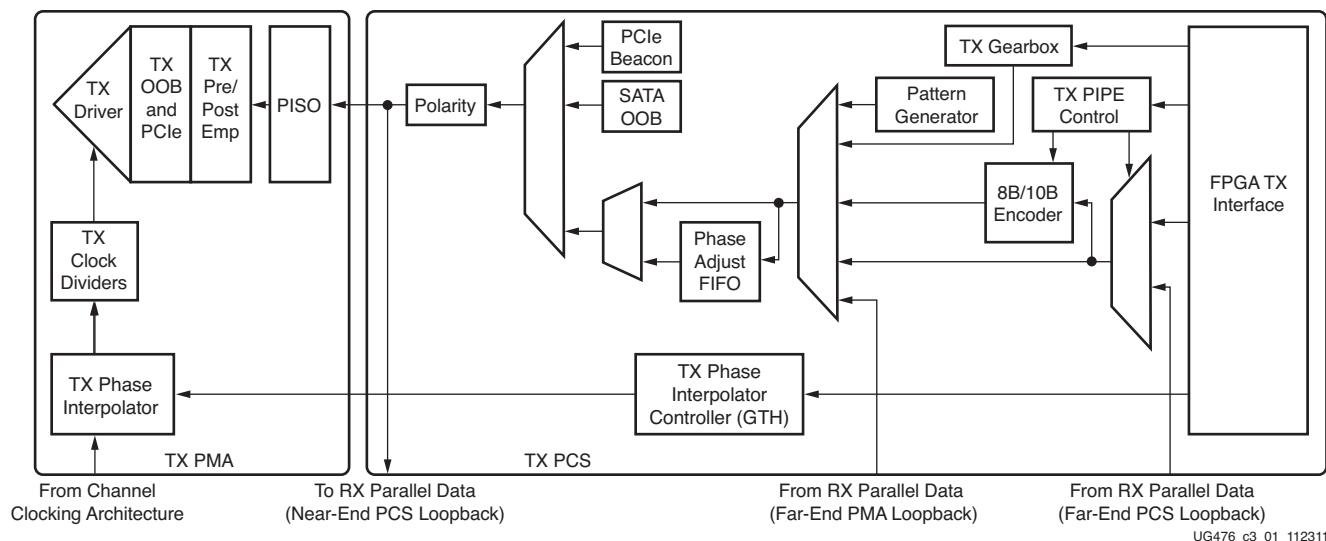

Figure 3-1: **GTX/GTH Transceiver TX Block Diagram**
This chapter shows how to configure and use each of the functional blocks inside the transmitter (TX). Each transceiver includes an independent transmitter, which consists of a PCS and a PMA. Figure 3-1 shows the functional blocks of the transmitter. Parallel data flows from the FPGA logic into the FPGA TX interface, through the PCS and PMA, and then out the TX driver as high-speed serial data.